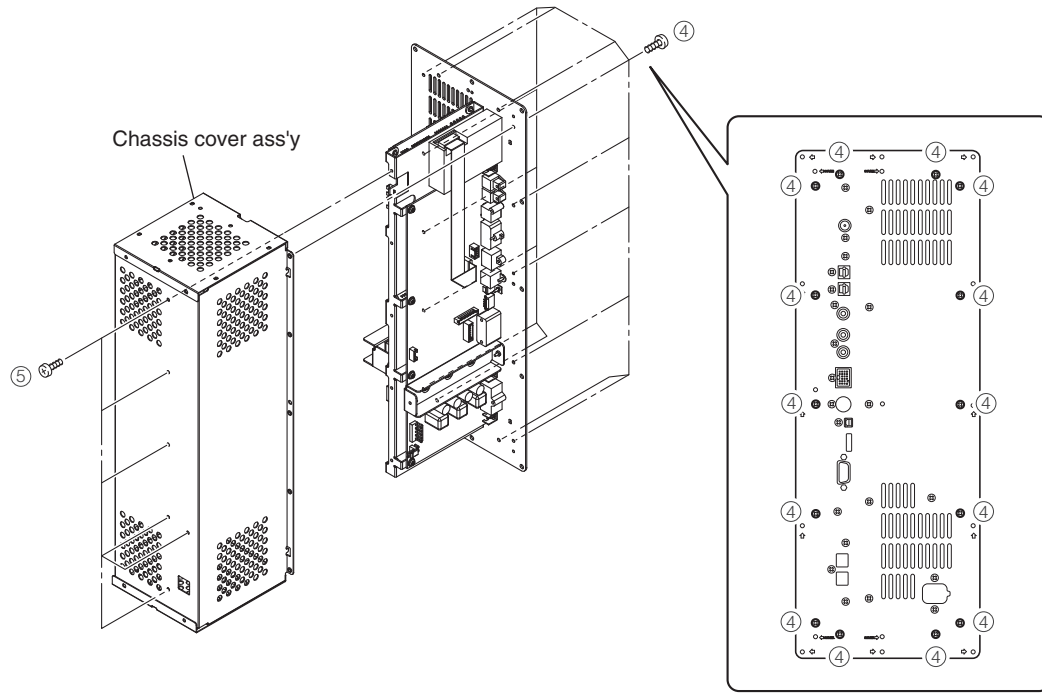

Fig. 4
- Remove 14 screws (④) and 6 screws (⑤). (Fig. 4)
- Remove the chassis cover ass'y. (Fig. 4)